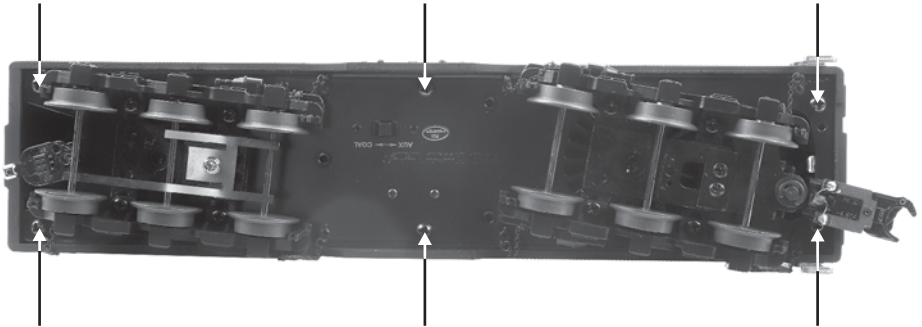

Figure 1. Location of Screws on Main Tender
1. First start by using a Phillips screwdriver to remove the 6 chassis screws securing the Main Tender's body to its chassis. Refer to Figure 1.